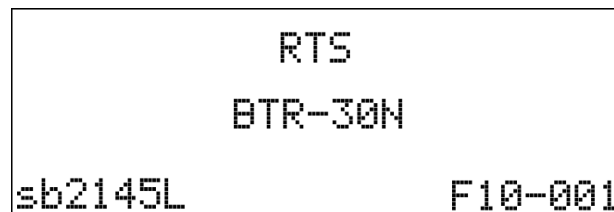

FIGURE 35. Start Up Screen
When the BTR-30N powers up, the first screen displayed is the **Start Up** splash screen. It displays for about three (3) seconds. This screen contains both the software version number and band ID of the base. Figure 35 shows a screen indicating software version sb2145L and a F10 band unit.